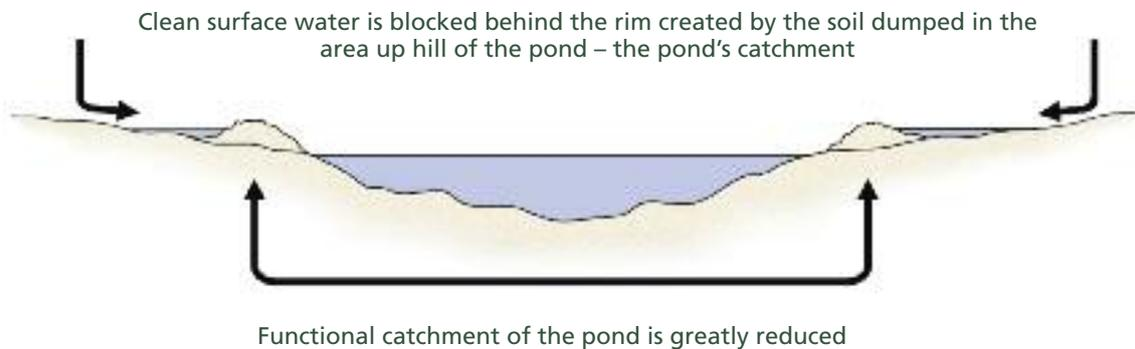

Figure 3. Example of routes used by heavy machinery (e.g. excavators and dumper trucks) on a pond creation site to minimise impacts.
- If spreading spoil then place it down hill of the pond (exception below) so that you don't form a rim preventing clean water draining into the pond (Figure 3). This is because run off from spoil placed up hill of the pond will bring in considerable amount of silt during heavy rain, at least until the area becomes vegetated.